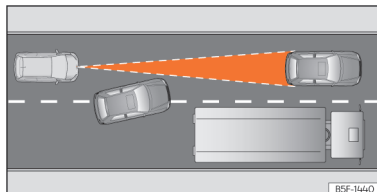

Fig. 110 Vehicle changing lanes.
- Vehicles that move into your lane, a short distance from your vehicle »» **Fig. 110**.